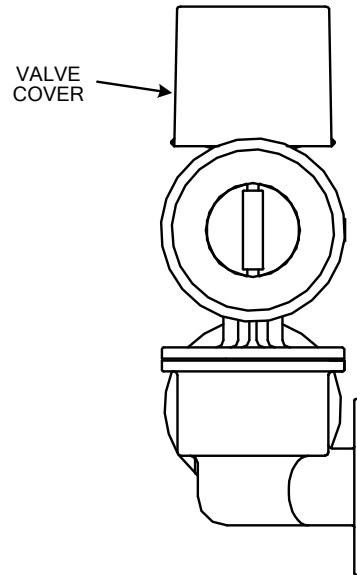

Figure 6.7
2. Remove the air/fuel valve cover by rotating the cover counterclockwise to unlock it and then pulling it towards you (see Fig. 6.7).
2. Remove the air/fuel valve cover (Fig. 6.7) by rotating the cover counterclockwise to unlock it then pulling it towards you.